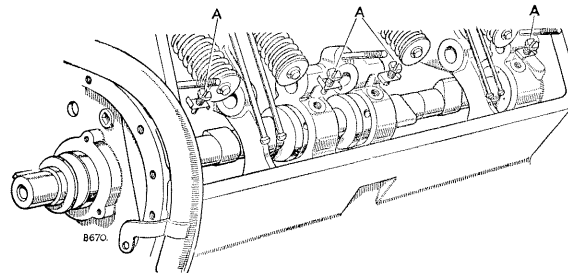

Fig. A-21—Camshaft bearing location bolts
3. Line up the locating holes in the bearings and housings, and before replacing the set bolts, squirt oil down the holes to lubricate the bearings until oil pressure is built up. Replace set bolts. See Fig. A-21.